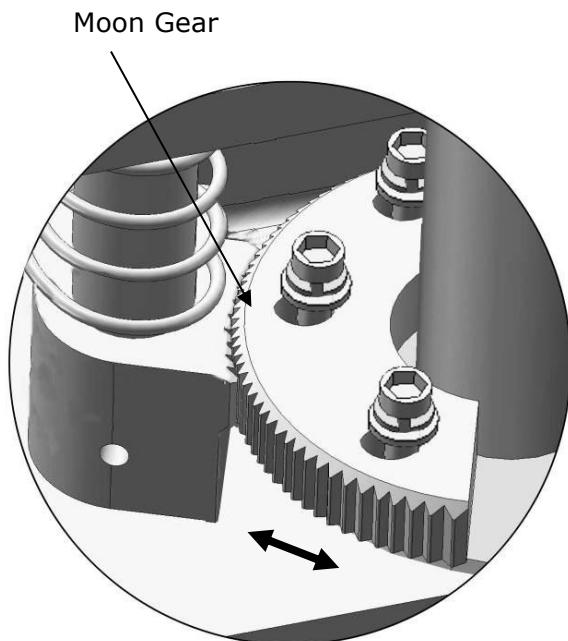

Fig. 38
3. Adjust arm lock as direction of arrow (**See Fig.38**).